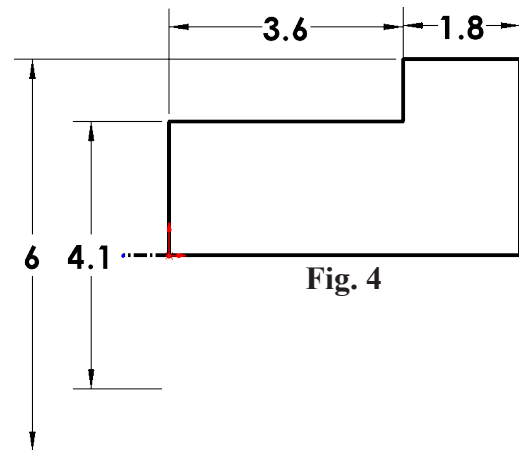

Fig. 4
Step 7. Click **Smart Dimension**  (S) on the Sketch toolbar.
Step 8. Add dimensions, **Fig. 4**. **Double distance the diameters.** To double distance dimension, click centerline and then top horizontal line, move the cursor below centerline (Origin) and click. Key-in the diameter in the Modify box and press ENTER.